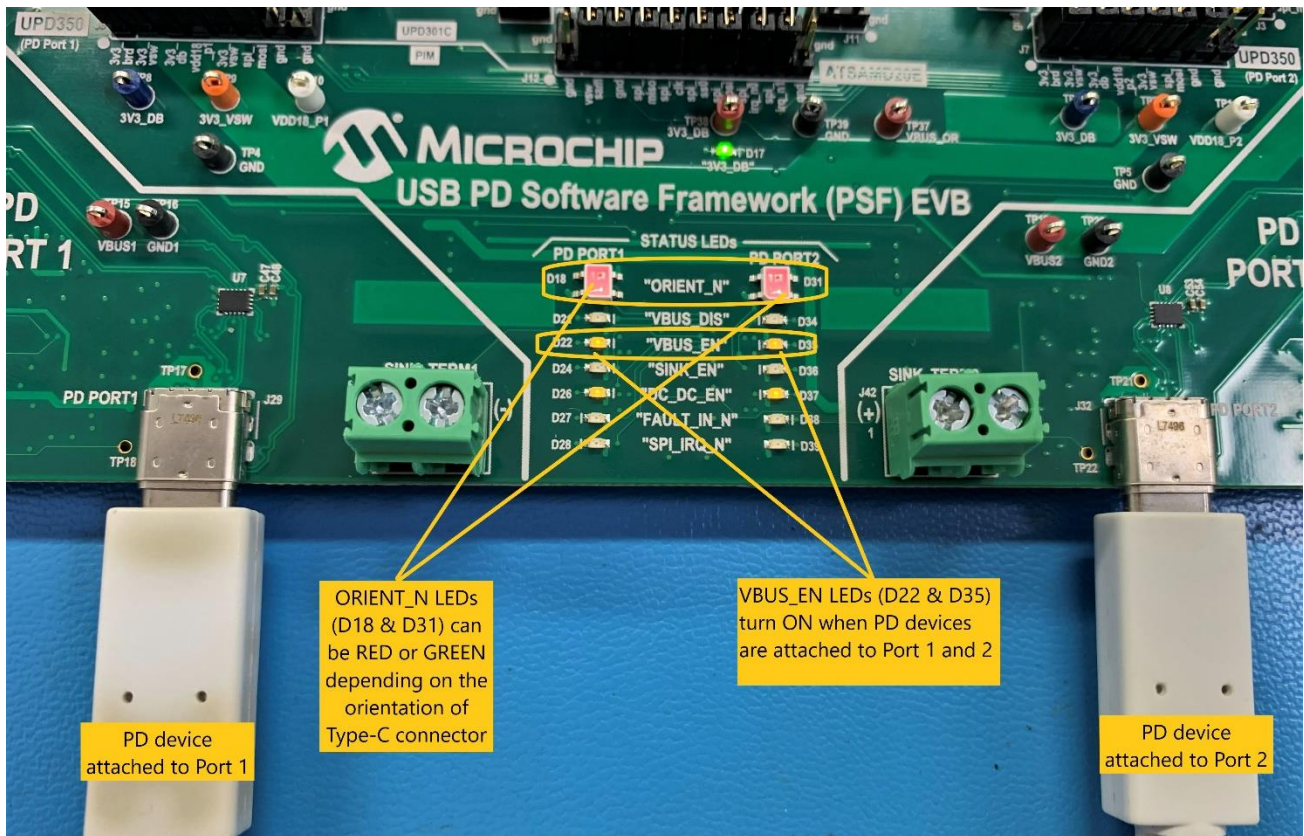

Figure 7.2 Status of ORIENT_N, VBUS_EN LED after device attach
4. Once an explicit power contract negotiation is in place, the device starts charging. PDO status LEDs will turn ON indicating the negotiated voltage as shown in Figure 7.2
5. In our case, PD Capable Phone connected in Port 1 has requested 9V and PD Capable Phone connected in Port 2 has requested 5V. The status of ORIENT_N, VBUS_EN LED after device attach are shown in Figure 7.2